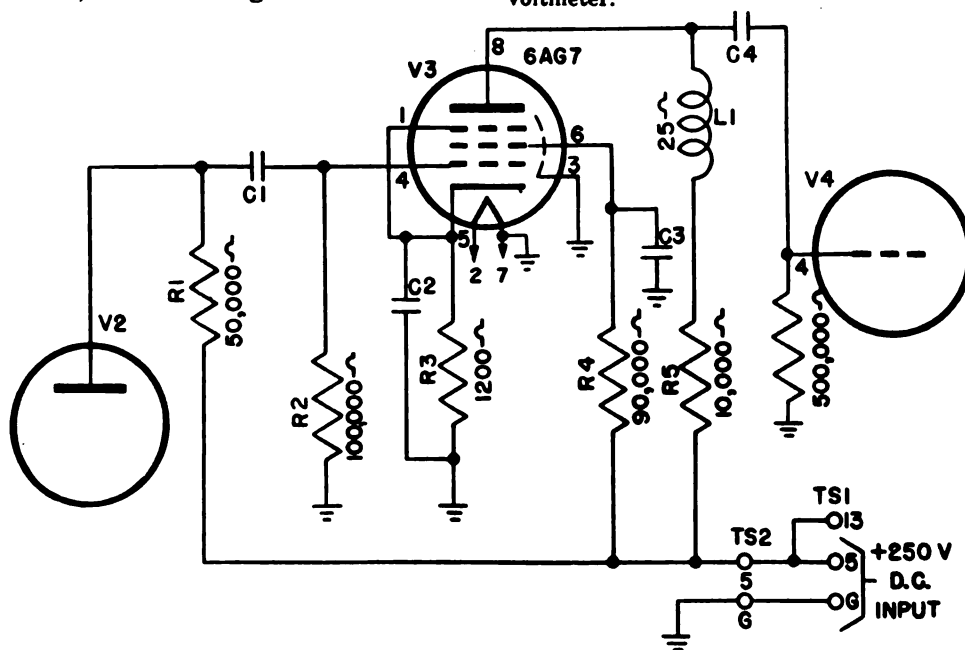

Figure 51. Voltage analysis schematic diagram.
(3) When a voltmeter is loading a circuit, the effect can always be noted by comparing the voltage readings on two successive ranges. If the voltage readings on the two do not agree, voltmeter loading is excessive. The reading, *not the amount of needle deflection*, on the highest range may be greater than on the lowest range. If the voltmeter loads the circuit heavily, the pointer deflection may remain nearly the same when the voltmeter is shifted from one range to another.
(4) The voltage and resistance drawings used in this manual are based on readings taken with an actual meter. The ohms-per-volt sensitivity of the meter used is given in the drawing. When trouble-shooting, use a meter having the same sensitivity.
**d. Voltage Analysis.** Figure 51 illustrates a typical amplifier stage. The values of the various parts and the input voltages are labeled. The normal voltages at the socket pins of tube V3 are: